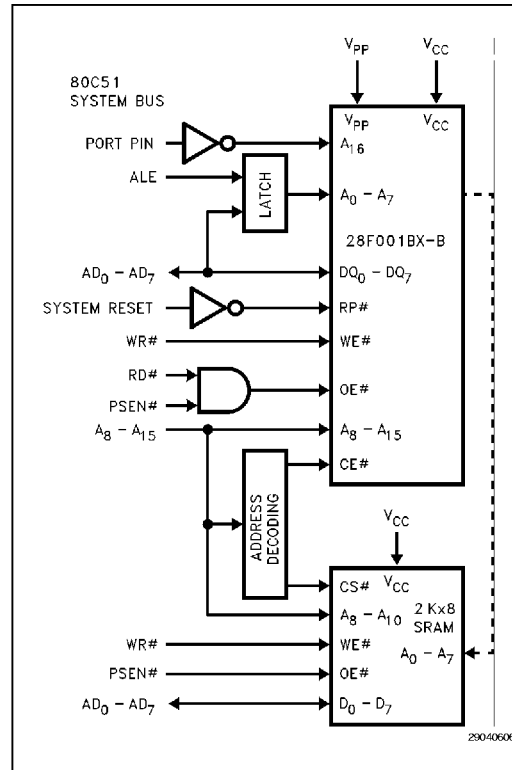

Figure 5. 28F001BX-B in a 80C51 System
-004	<p>Removed Preliminary classification.</p> <p>Latched address A₁₆ in Figure 5.</p> <p>Updated Boot Block Program and Erase section: "If boot block program or erase is attempted while RP# is at V_{IH}, either the Program Status or Erase Status bit will be set to '1,' reflective of the operation being attempted and indicating boot block lock."</p> <p>Updated Figure 11, 28F001BX Erase Suspend/Resume Flowchart.</p> <p>Added DC Characteristics typical current values.</p> <p>Combined V_{PP} Standby current and V_{PP} Read current into one V_{PP} Standby current spec with two test conditions (DC Characteristics table).</p> <p>Added maximum program/erase times to Erase and Programming Performance table.</p> <p>Added Figures 13–16.</p> <p>Added Extended Temperature proliferations.</p>